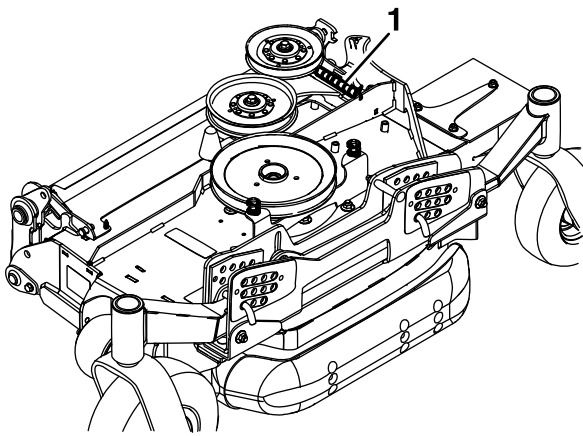

Figure 87
23. To ease installing the wing deck sections, carefully remove the exposed end of the spring that applies pressure to the rear of the wing deck cover (Figure 87).